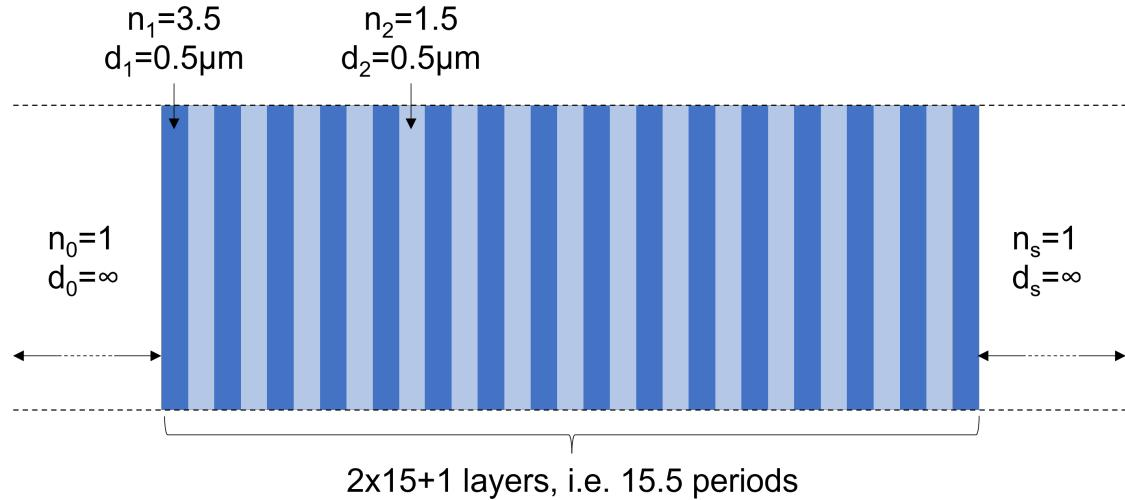

Figure 3.15: Geometry of the DBR example.
We will now consider the same 1D photonic crystal as in the last session, as illustrated in Figure 3.15. We define the period a as $a = d_1 + d_2$.
- a) Plot the corresponding first 6 photonic bands for $k_x/(2\pi/a)$ going from $-1/2$ to $+1/2$ (X axis transverse to the layers, i.e. horizontal in figure 3.15).